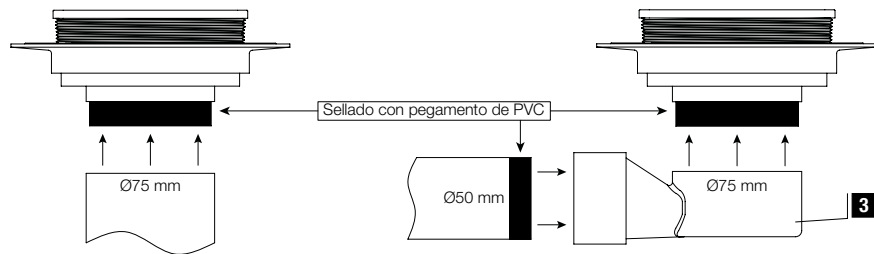

Fig.1.2
- Pipe union with glue for PVC and for water pipes (follow manufacturer PVC glue instructions for a good sealing) , see fig. 1.2